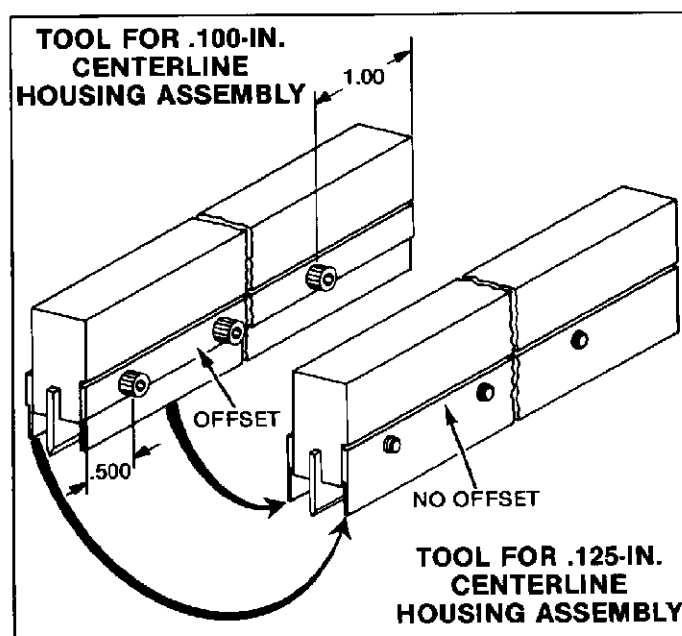

Fig. I-3
3. Position the starting 8/10 locator at the .500-in. end of the stabilizer bar and either a 8/10 or a 12/15 locator at the other end. Position the side rails with the side rails outward as shown in Figure I-3.
The tool must be setup to accommodate (1) .100-in. centerline housing assemblies and (2) a particular size assembly. This involves repositioning the side rails (Figure I-3) and reassembling the tool using the required number of 8/10 and 12/15 locators as specified in the chart in Figure II-1.